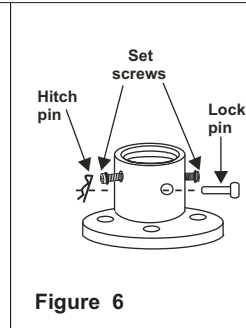

Figure 6
2. Loosen the two set screws and remove the hitch pin and lock pin from the motor assembly. (Figure 6)